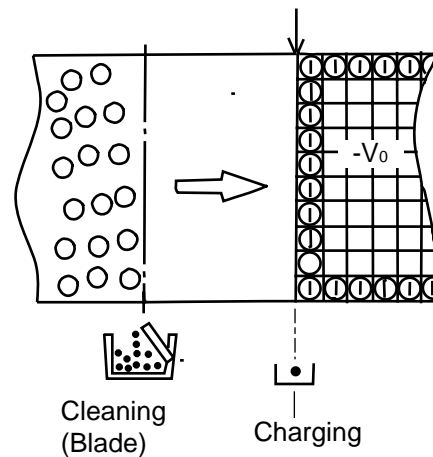

Fig.4-10
- ②. Charger unit consists of the case, corona wire and grid.
- ③. Charger unit charges the OPC belt surface to the potential $-V_0(V)$ with the corona charge.
- ④. Charger unit has the grid controllable to the constant voltage $ZD(V)$ for even charging.
(2). Process of Charging (Fig.4-10)
- ①. Status of OPC belt surface before charging is $-CBV(V)$.
- ②. Charger unit charges evenly the OPC belt surface till $-V_0(V)$ by generating negative charge.